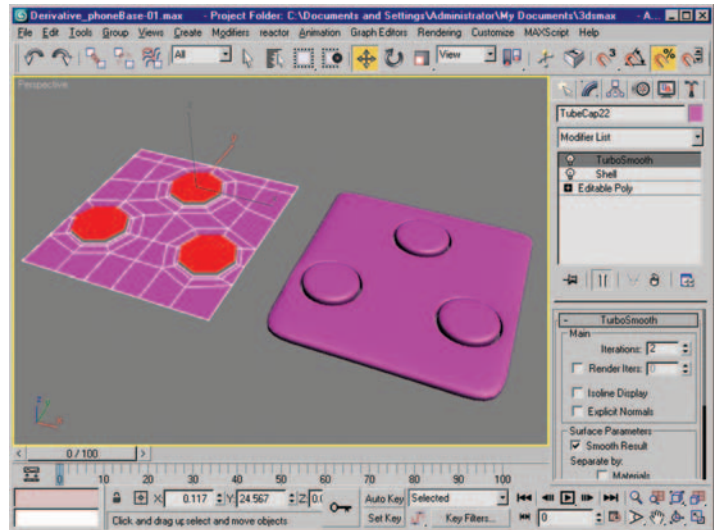

Figure 5.22 Buttons raised up from the faceplate.
22. With your object still selected, go down the stack to the Editable Poly > Element subobject level and select the three buttons. Using the Move tool, move them up a bit to raise them a little from the faceplate surface. Note that the derived buttons are not fully Quad based at this stage. You can connect edges to create all Quads; however, in this case it doesn't have a huge impact on our final result (Figure 5.22).